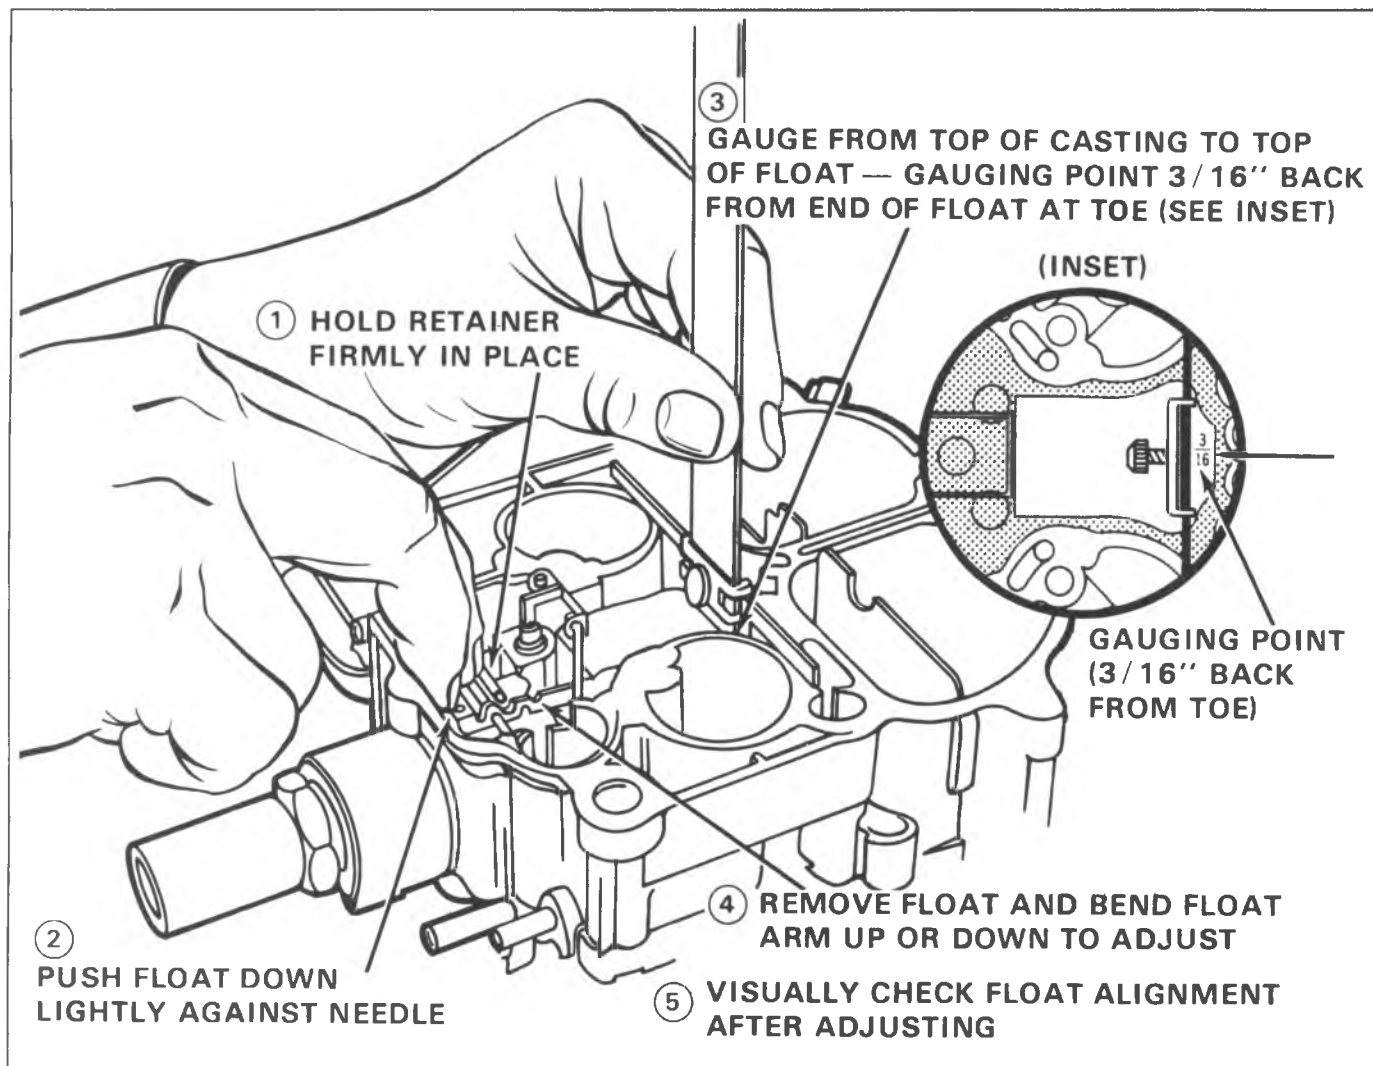

Fig. 6C4-48--Float Level Adjustment
10. Install power piston spring in power piston well. If main metering rods were removed from hanger, reinstall making sure tension spring is connected to top of each rod (Fig. 6C4-32). Install power piston assembly in well (aligning pin on piston with slot in well) with metering rod properly positioned in metering jets. Press down firmly on plastic power piston retainer to make sure the retainer seated in recess in bowl and the top is flush with the top of the bowl casting. If necessary, using a drift punch and small hammer, tap retainer lightly in place.